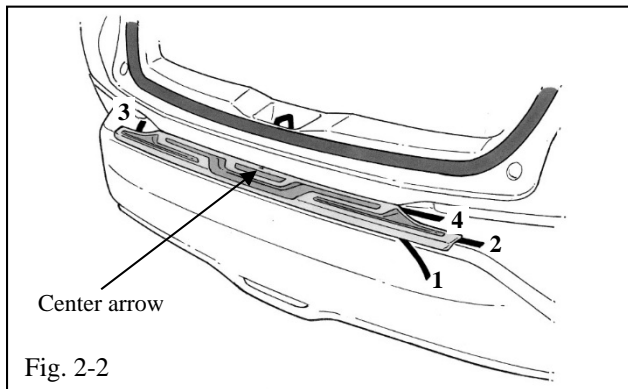

Fig. 2-2
- (c) Position the bumper protector at the edge profile of the bumper and align the center arrow to the striker latch. Make sure liner **1** is facing down, liner **3** is facing forward and liners **2** and **4** are facing out (Fig. 2-2).